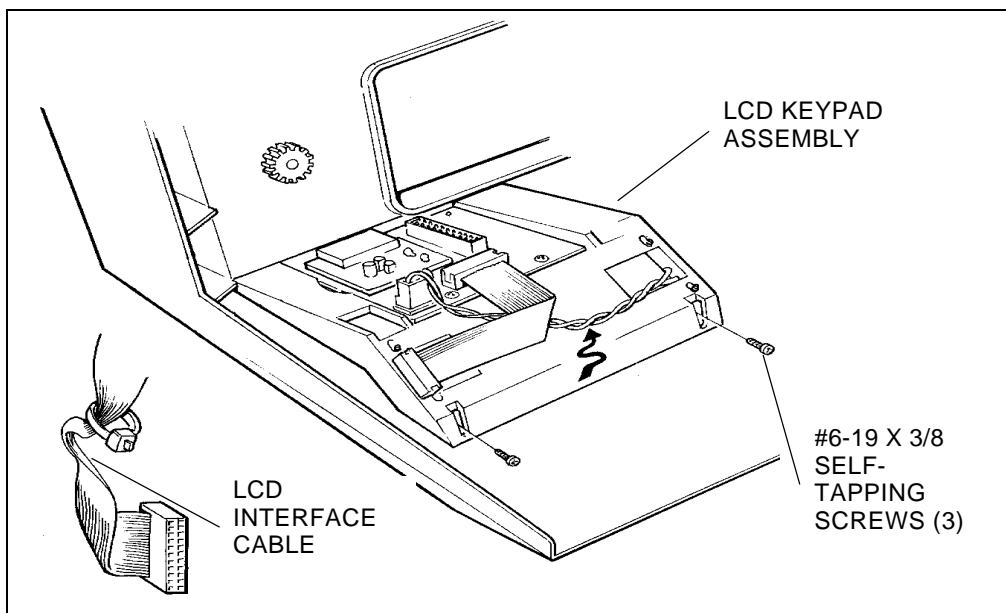

Figure 6-2. Removing the LCD keypad
2. Remove two #6-19 x 3/8 self-tapping screws which secure the LCD Keypad to the Front Bezel Assembly. (Figure 6-2)